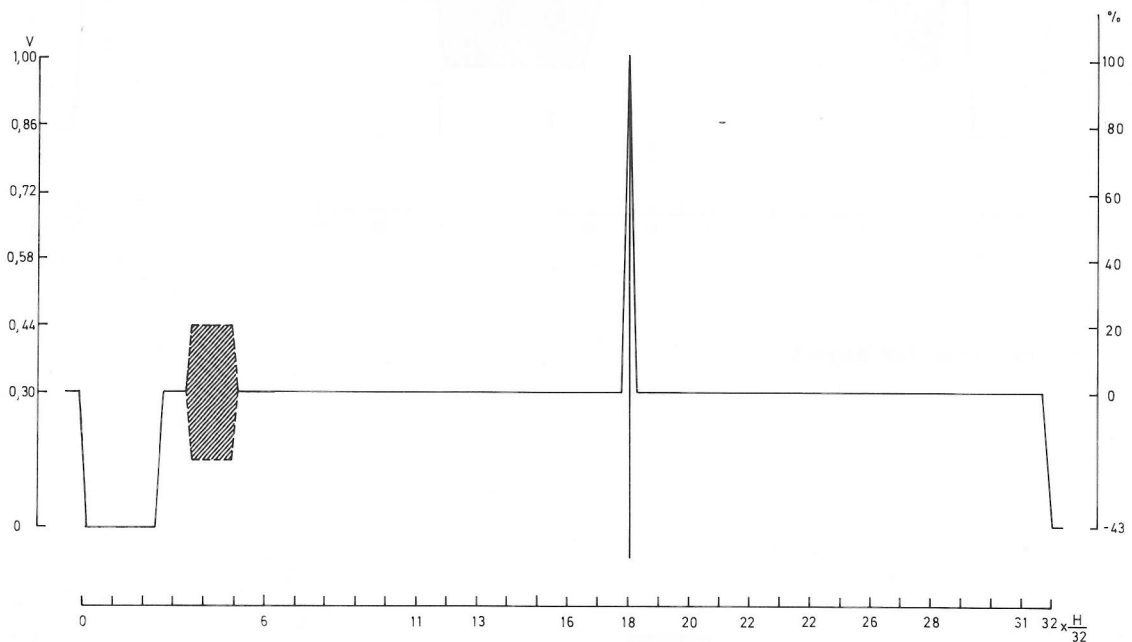

Fig. 3-5 2T pulse
6. (L) 2T sine² pulse (See also fig. 3-5)
Timing	: see fig. 3-5